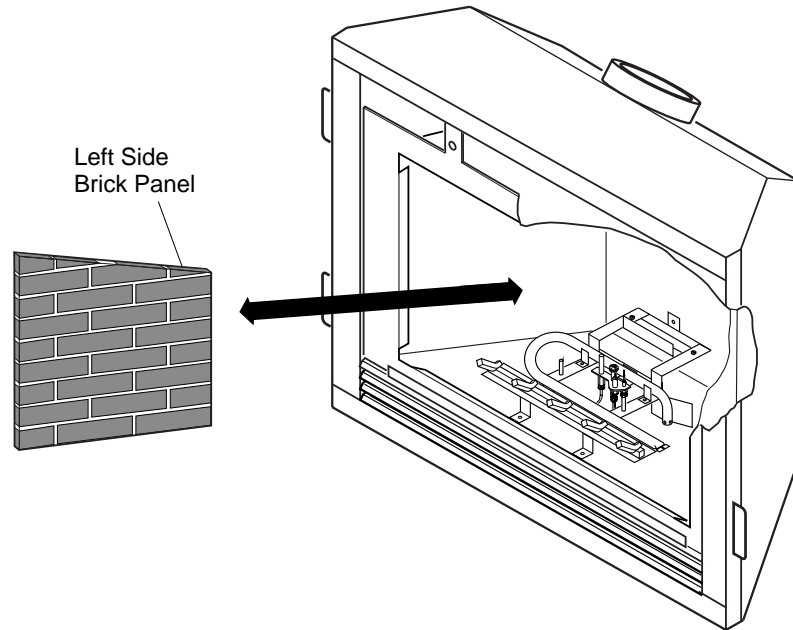

Figure 45 - Installing Left Side Brick Panel
3. Install left side brick panel first by sliding it between the grate and the side of the firebox (see Figure 45).